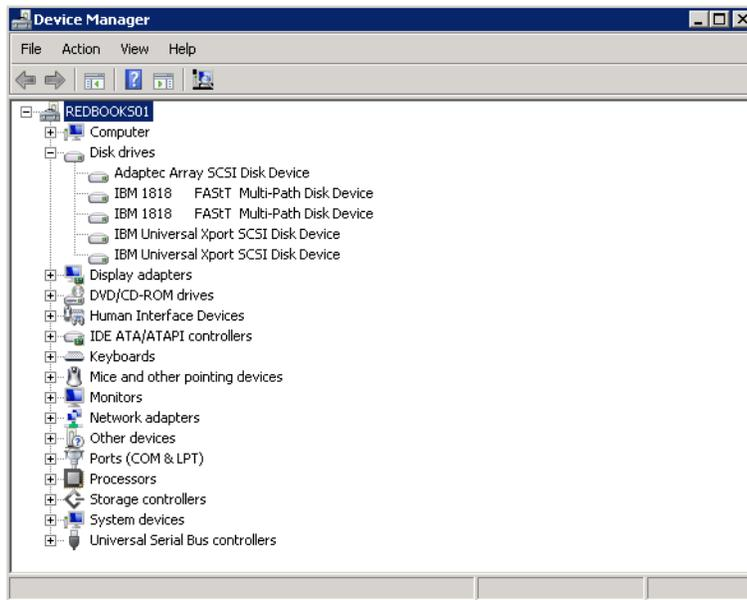

Figure 4-22 Verifying the disks in Device Manager
1. Open the Device Manager folder to see the detected mapped logical volumes. Each logical drive is presented as IBM xxx Multipath Disk Device under the Disk drives folder, where xxx is the product ID of the DS Storage subsystem, as shown in Figure 4-22.